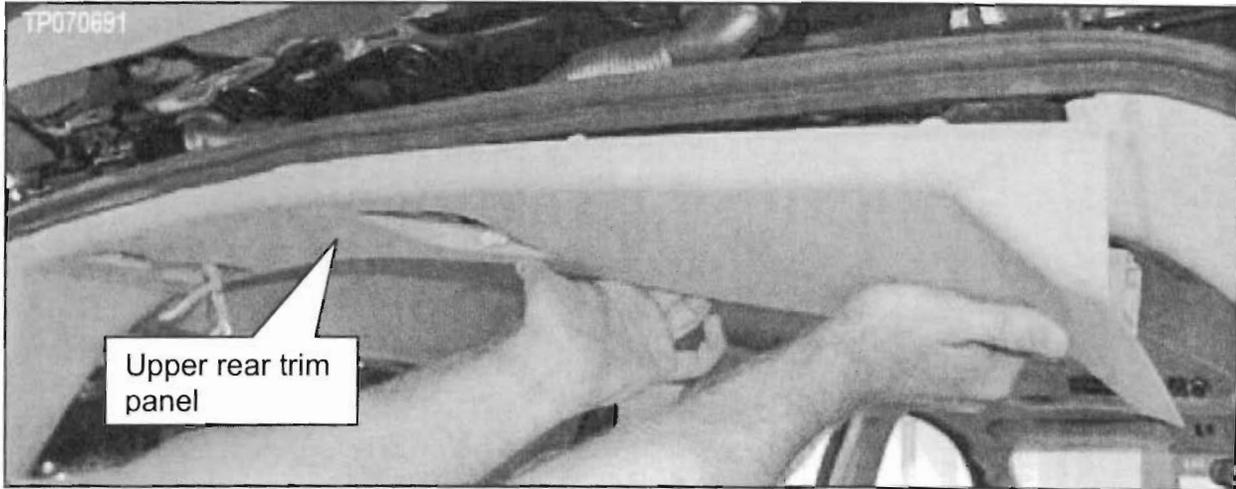

Figure 6
7. Remove the upper rear trim panel shown in Figure 6.